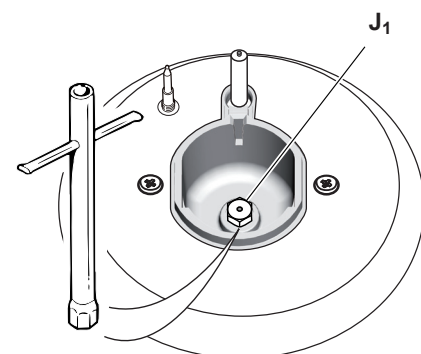

Fig. 2.8
- Using a wrench substitute the nozzle injectors "J1", "J2" and "J3" (figs. 2.8, 2.9) with those most suitable for the kind of gas for which it is to be used.